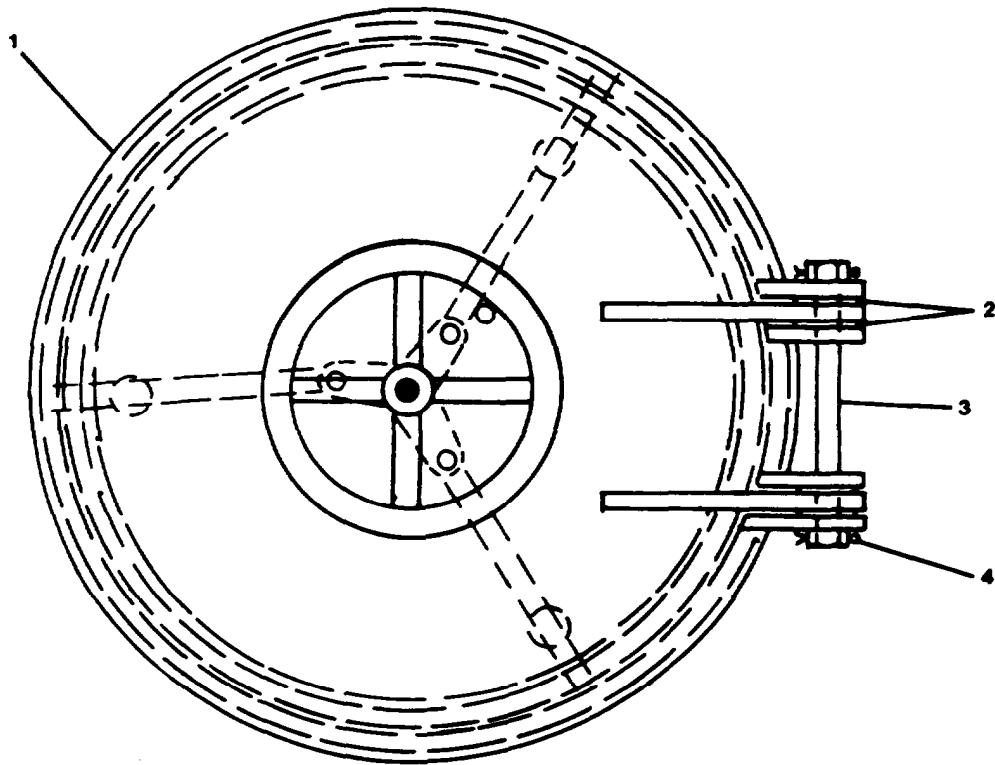

FIGURE 2-182. Remove Watertight Scuttle, Quick Action (Raised).
- a. Open scuttle (1, FIGURE 2-182).
- b. Remove cotter pins (4) from cylindrical pin(3).
- c. Remove cylindrical pin (3) from hinge blades.
- d. Remove flat washers (2).
- e. Remove scuttle (1) from closure.
- h. Install guides (20) with dog arms (12) and tighten set screws (14).
- i. Install cylindrical pins (11) in dog arms.
- j. Secure cylindrical pins using cotter pins (13).
- k. Place preformed packing (9) and bronze bushings (6) on handwheel shaft (17).
- l. Install flat washer (81) and spider (16) on scuttle.
- m. Install cover (15) on scuttle.
- n. Install handwheel and shaft (17).
- o. Install handwheel (8) on scuttle.
- p. Secure handwheel using jam nuts (7).
- a. Place scuttle (1, FIGURE 2-182) in place.
- b. Install flat washers (2) and align holes.